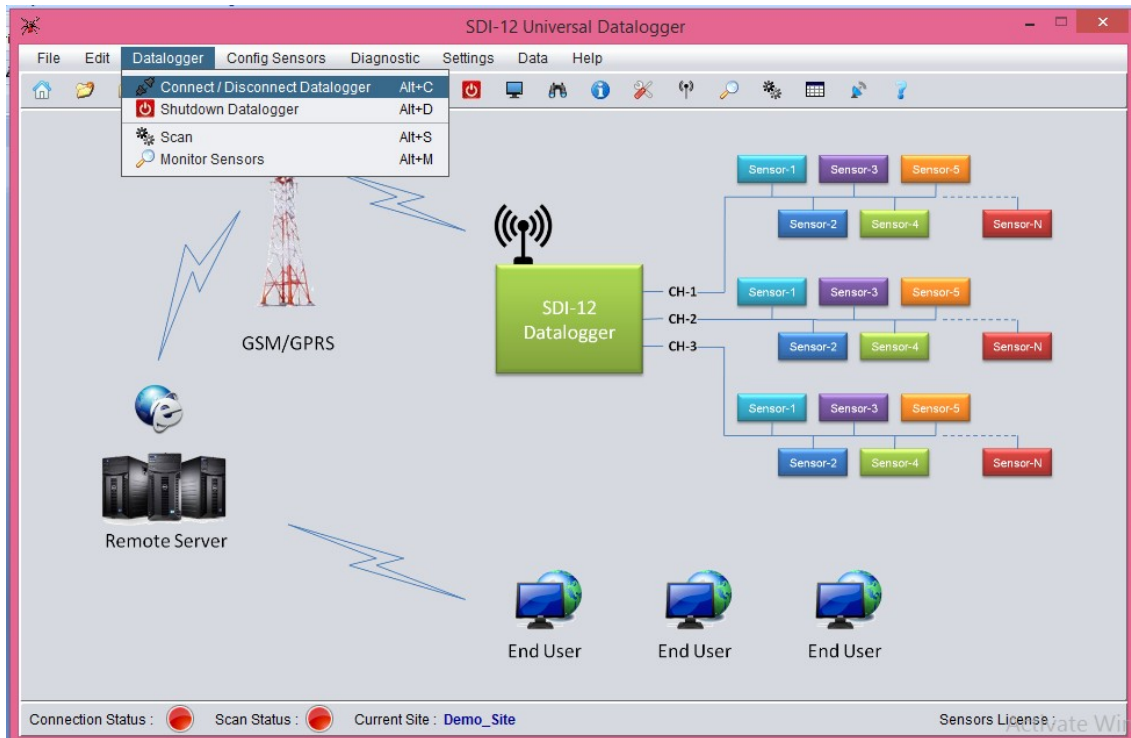

Figure 19 Datalogger menu of EDSL-30UNI Configuration Manger Software
- 3 Then click “Datalogger” followed by “Connect/Disconnect Datalogger” as shown in figure 19 below.